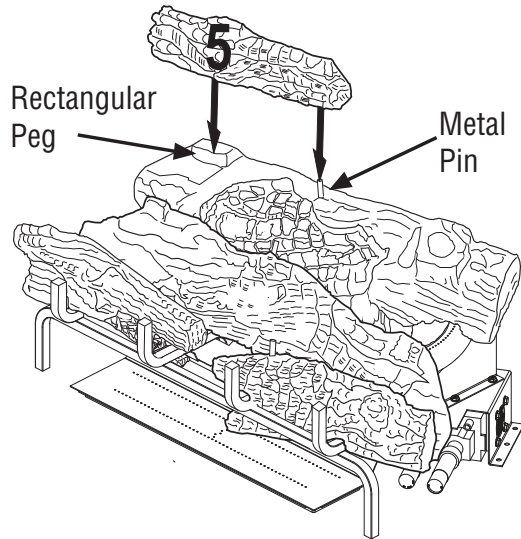

Figure 25 - Installing Log # 5
5. Place the left back top log (#5) on top of the rear log (#1). Match the rectangular peg on top of the left side of the rear log (#1) with the rectangular hole on the bottom of the left back top log (#5). Match the metal pin on the top of the rear log (#1) with the round hole in the bottom of the left back top log (#5). See *Figure 25*.